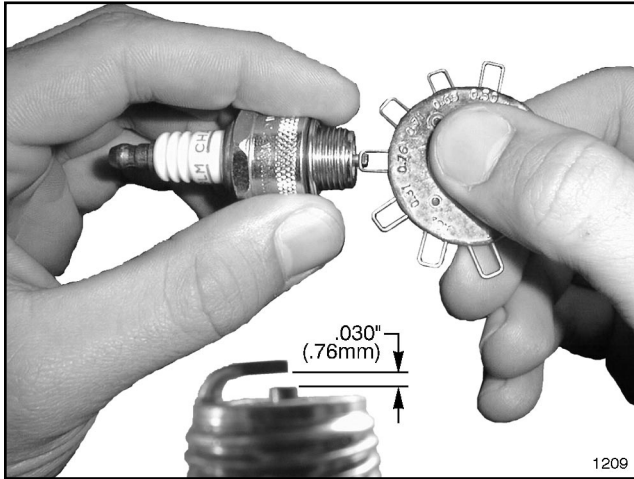

FIG. 4
Every 50 hours of operation, clean the area around the base of the plug and check its condition. Reset the gap to .030 in. (0.76 mm) or replace with a new resistor spark plug as necessary. See FIG. 4.
1. Turn Tank Spigot to on position. See FIG. 4.